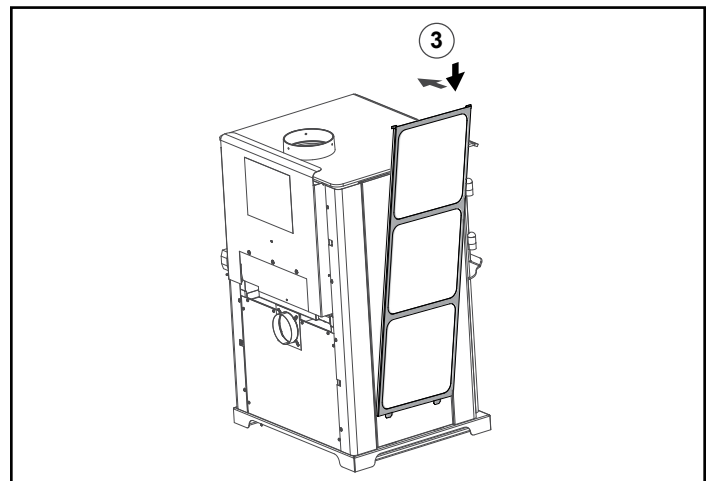

Figure 24.5
3. Reattach tile frame (**Figure 24.5**).